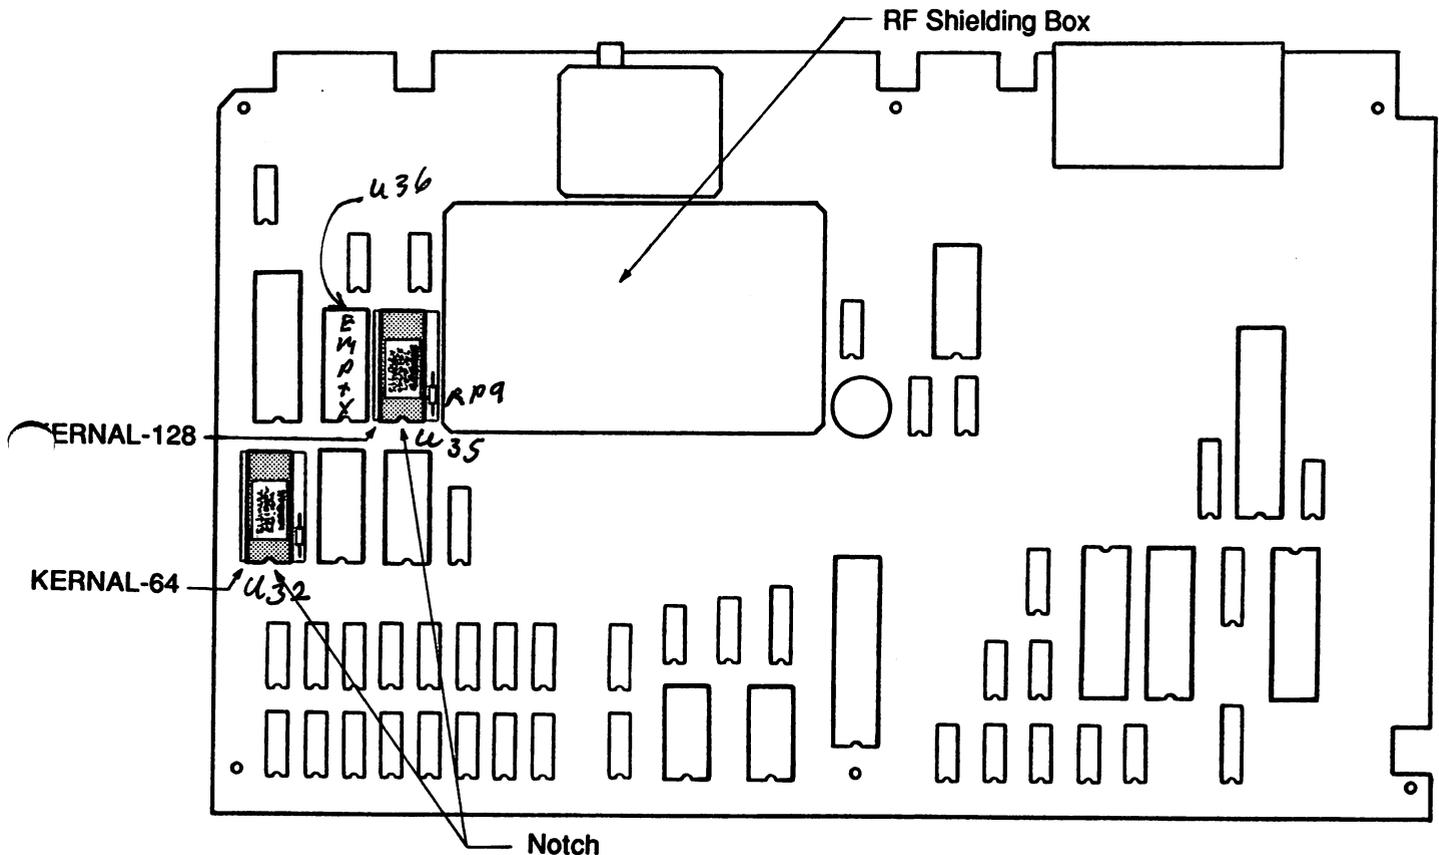

Figure 3 JIFFYDOS KERNAL ROM LOCATIONS
13. "Test fit" the KERNAL-64 and KERNAL-128 assemblies into their respective sockets on the C-128 circuit board (see Figure 3 below).
Make sure that the KERNAL-64 and KERNAL-128 ROMs are in the correct sockets, and MAKE SURE THAT THE NOTCHES IN THE ROMS FACE THE FRONT OF THE COMPUTER AS SHOWN IN FIGURE 3 BELOW.
DO NOT replace the single screw which secures the shield to the top of the RF Shielding Box shown in Figure 3 (leaving the screw out will not affect the operation or reliability of the C-128 in any way).
18. Before continuing, **MAKE SURE** the cover on the RF Shielding Box (see Fig. 3) is pressed down firmly into place (see above).